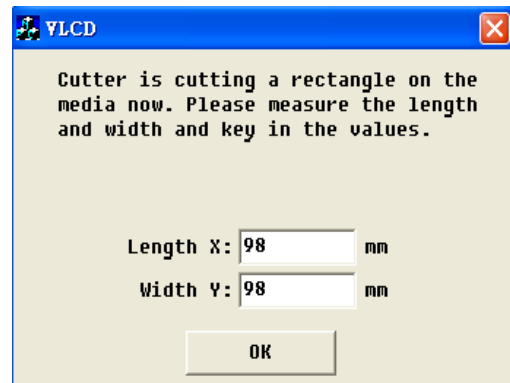

Figure 3-6
Step 2 After the cutting job is set, an adjustment dialog window will pop up. Measure the real cutting width and length of the rectangle, and then, key in the values in the boxes (Figure 3-6). In this case, the actual cutting width of the rectangle is 98mm.